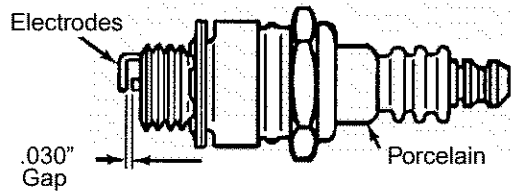

Figure 10
Clean the spark plug and reset the gap to 0.030" at least once a season or every 100 hours of operation. See Figure 10 . Replace if necessary.
3. Replace the spark plug if electrodes are pitted, burned, or the porcelain is cracked. See Figure 10 .